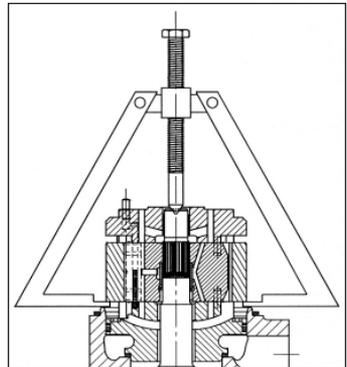

Fig. 4
4. Disassemble the cartridge / front cap with an extractor (Fig. 4).